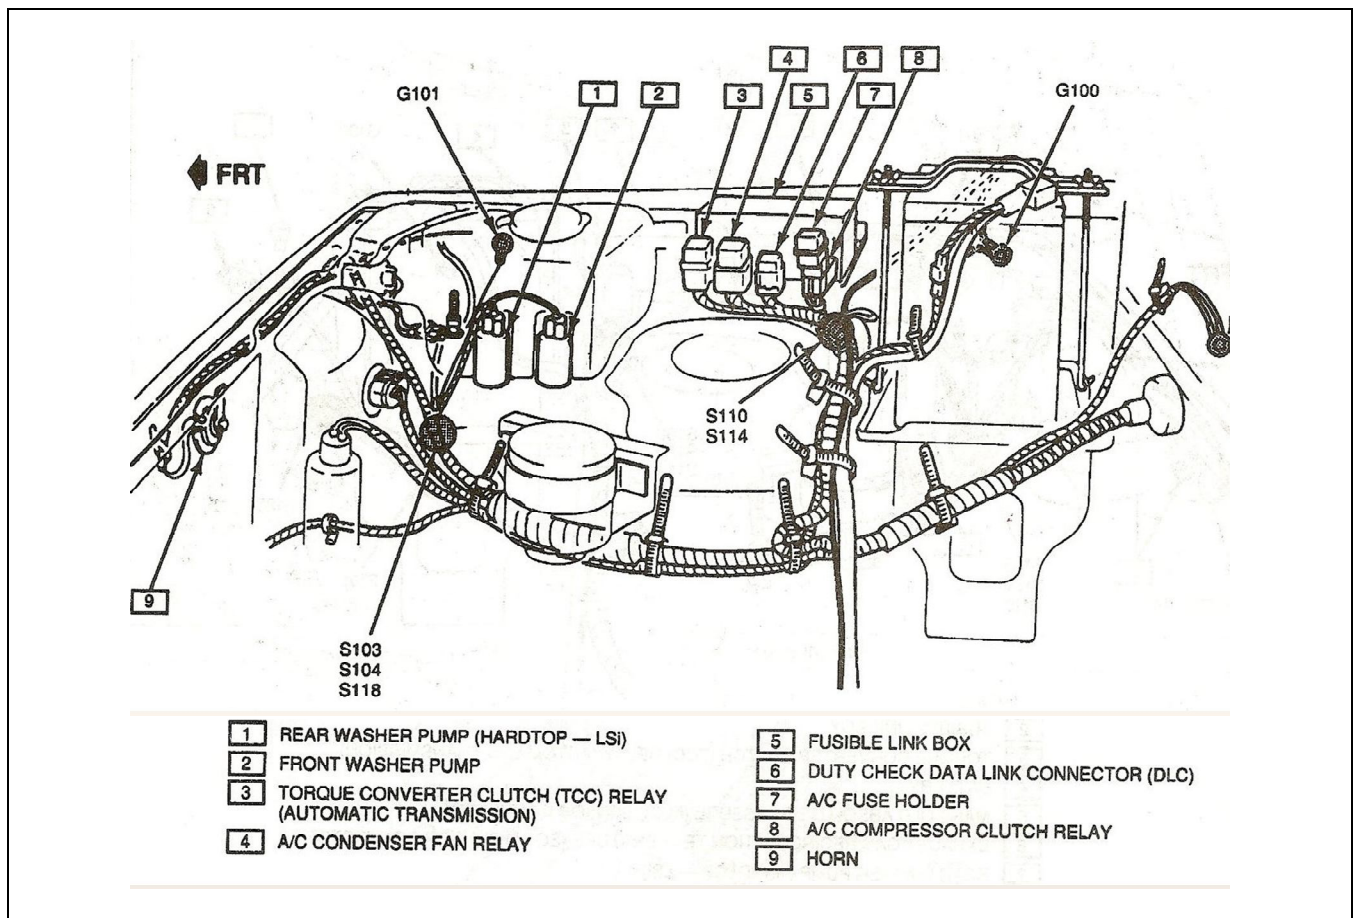

Figure: 8A-201-2
3.10.1. Dismount the Fusible Link Block (Fig. 8A-201-2 #5). Remove the cover and disconnect the alternator & battery leads. Unplug the two connectors on the bottom (C1- WHT wire & C2 - WHT/YEL & WHT/GRN wires). Reinstall the cover and set the fuse block aside.
3.10.2. Disconnect the relays and remove the Duty Check connector from its mount tab Fig. 8A-201-2 #6). Remove the bracket from the fender and force the relays off the tabs. Save TCC Relay for A/T install (Fig. 8A-201-2 #3). Save the A/C relays for spare parts and put the bracket with the fuse link block.